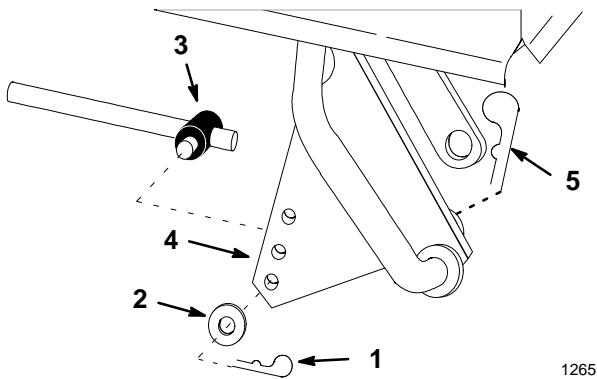

Figure 13
3. Remove hairpin cotter and washer from trunnion at lift plate (Fig. 13).
4. Remove hairpin cotter and slide lift plate off attachment lift (Fig. 13).